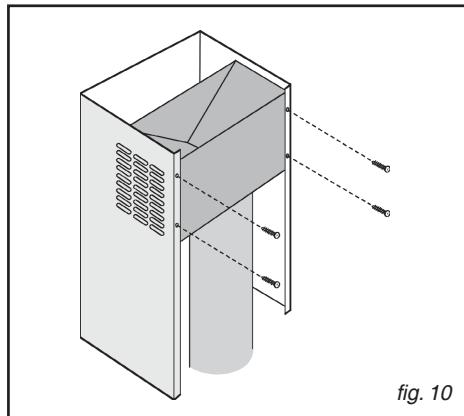

fig. 10
- Fit the adapter flange (F) on to the air baffle (Fig.10)